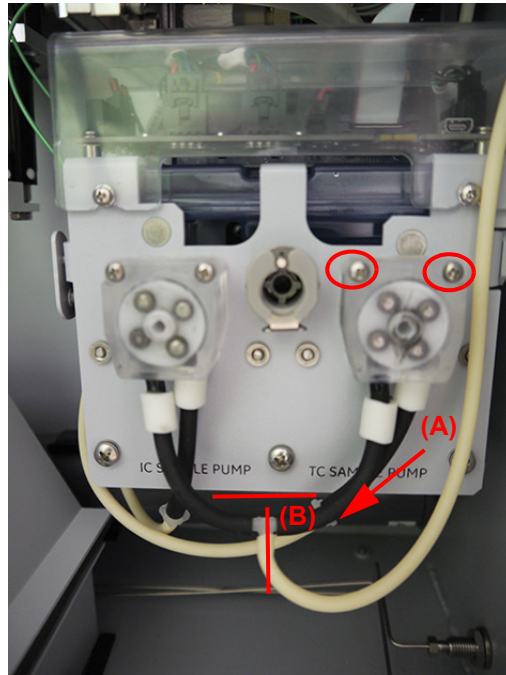

Figure 57: Sample Pump Heads and Tubing — TC Side
2. Open the Analyzer and locate the two sample pump heads Figure 57. Refer to “Interior Views of the Analyzer” on page 208 if needed.
3. To remove the TC pump head, disconnect the right *inlet* tubing coming out of the pump head from the fitting at the end of the TC waste tubing (**A**), Figure 57.
4. Disconnect the left *outlet* tubing coming out of the sample pump head from the T-connector **(B)**, Figure 57.
10. Connect the left tubing end to the T-fitting **(B)**, Figure 57.
11. Connect the right tubing end to the TC waste tubing **(A)**, Figure 57.